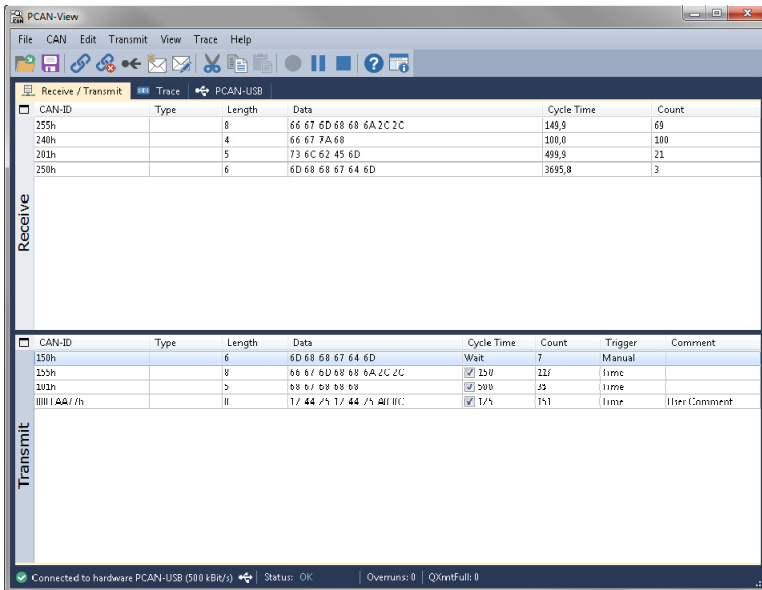

Figure 11: Receive/Transmit Tab
6. Finally, confirm the settings in the dialog box with **OK**. The main window of PCAN-View appears (see Figure 11).